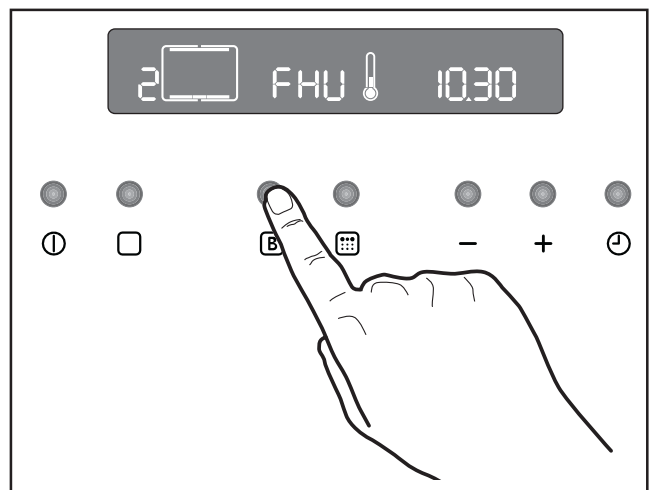

Fig. 16
4. Press button B. The temperature display will show “FHU” (Fig. 16).